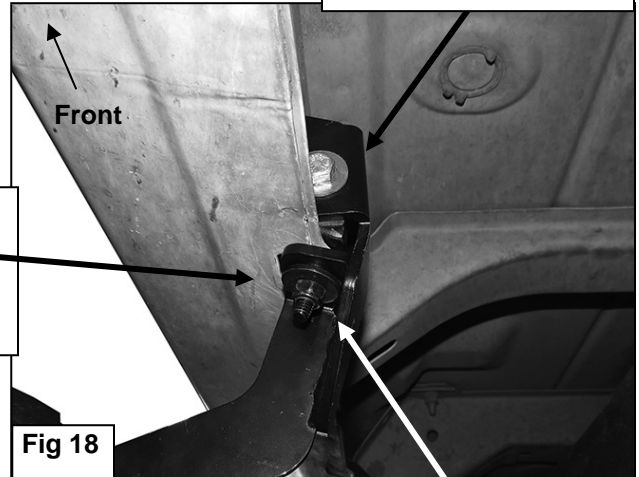

Fig 18
- a. **Models with a weld-nut:** Slide the Bracket over the weld-nut, **(Figure 14)**. Attach the Lower Bracket to bottom of the body and weld-nut with (1) 8mm x 25mm Hex Bolt, (1) 8mm Lock Washer and (1) 8mm Flat Washer, **(Figure 18)**. Leave loose at this time.
11. Line up the side tab on the Lower Bracket with the threaded hole in the Upper Bracket. Attach the Lower Bracket to the side of the Upper Bracket with (1) 8mm x 25mm Hex Bolt, (1) 8mm Lock Washer and (1) 8mm Flat Washer, **(Figure 18)**. Leave loose at this time.